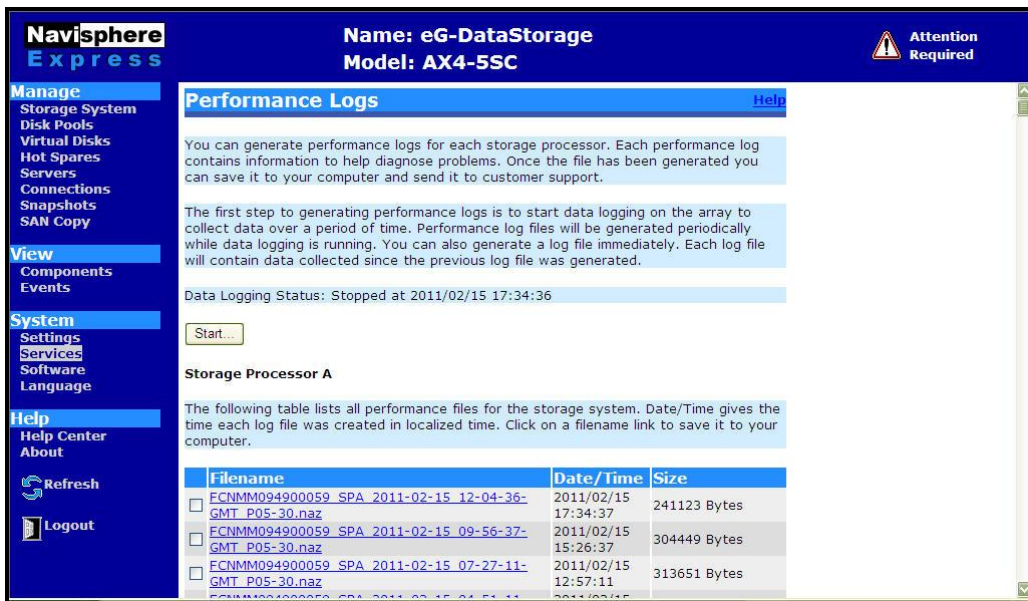

Figure 1.8: Starting data logging
- In the **Performance Logs** page that then appears (see Figure 1.8), click on the **Start** button to begin data logging.